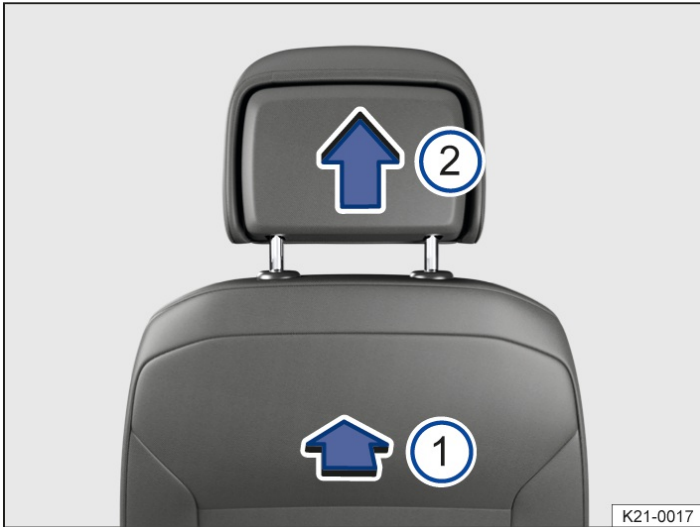

Fig. 1 Removing a front head restraint(illustration).
2. To release the head restraint, feel for the recess in the marked area → Fig. 1 1 on the rear side, press in and hold in the direction of the arrow.
3. Pull the head restraint out in the direction of the arrow → Fig. 1 2.